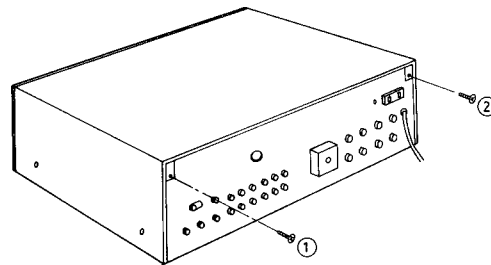

Fig. 1
- Remove the two cabinet mounting screws (nos ①, ② screws in fig. 1).